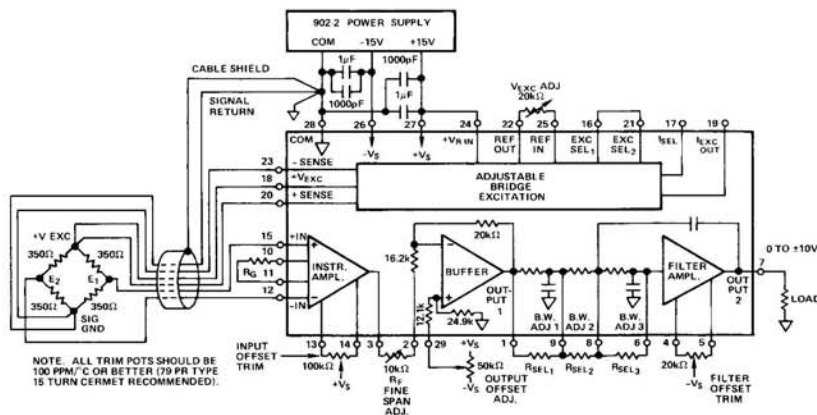

Figure 1. Typical Bridge Transducer Application Using 2B31
The 2B30 and 2B31 employ a multi-stage design, shown in Figure 1, to provide excellent performance and maximum versatility. The input stage is a high input impedance ( $10^8 \Omega$ ), low offset and drift, low noise differential instrumentation amplifier. The design is optimized to accurately amplify low level (mV) transducer signals riding on high common mode voltages ( $\pm 10V$ ), with wide (1-2000V/V), single resistor ( $R_G$ ), programmable gain to accommodate 0.5mV/V to 36mV/V transducer spans and 5 $\Omega$  to 2000 $\Omega$  RTD spans. The input stage contains protection circuitry for accidental shorts to power line voltage (130V rms) and RFI filtering circuitry.
Figure 1 illustrates the 2B31 wiring configuration when used in a typical bridge transducer signal conditioning application. A recommended shielding and grounding technique for preserving the excellent performance characteristics of the 2B30/2B31 is shown.
Models 2B30/2B31 have been conservatively specified using min-max values as well as typicals to allow the designer to develop accurate error budgets for predictable performance. The error calculations for a typical transducer application, shown in Figure 1 (350 $\Omega$  bridge, 1mV/V F.S., 10V excitation), are illustrated below.
where RG is the input stage resistor shown in Figure 1 and RF is the variable 10kΩ resistor in the output stage. For best performance, the input stage gain should be made as large as possible, using a low temperature coefficient (10ppm/°C) RG, and the output stage gain can then be used to make a ±20% linear gain adjustment by varying RF.
**Input Offset Adjustment:** To null input offset voltage, an optional 100kΩ potentiometer connected between pins 13 and 14 (Figure 1) can be used. With gain set at the desired value, connect both inputs (pins 12 and 15) to the system common (pin 28), and adjust the 100kΩ potentiometer for zero volts at pin 3. The purpose of this adjustment is to null the internal amplifier offset and it is not intended to compensate for the transducer bridge unbalance.
**Output Offset Adjustment:** The output of the 2B30/2B31 can be intentionally offset from zero over the ±10V range by applying a voltage to pin 29, e.g., by using an external potentiometer or a fixed resistor. Pin 29 is normally grounded if output offsetting is not desired. The optional filter amplifier offset null capability is also provided as illustrated in Figure 1.
**Filter Cutoff Frequency Programming:** The low pass filter cutoff frequency may be increased from the internally set 2Hz by the addition of three external resistors connected as shown in Figure 1. The values of resistors required for a desired cutoff frequency, fc, above 5Hz are obtained by the equation below: